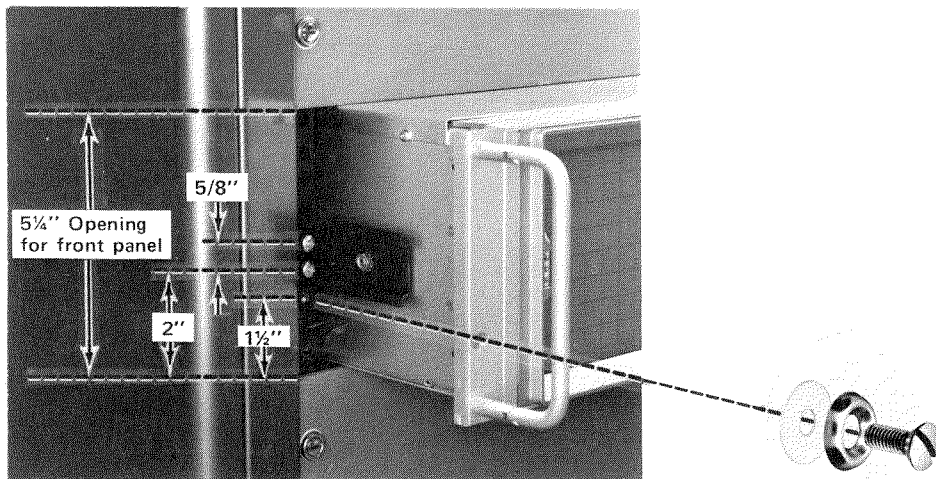

Fig. 6-2. Locating the mounting holes for the left stationary section. Same dimensions apply to right stationary section.
1. Select the proper front-rail mounting holes for the stationary sections using the measurements shown in Fig. 6-2.
screws and washers shown in Fig. 6-2. If the securing hole is not tapped, use a “speed-nut” or similar item to install the securing screw.